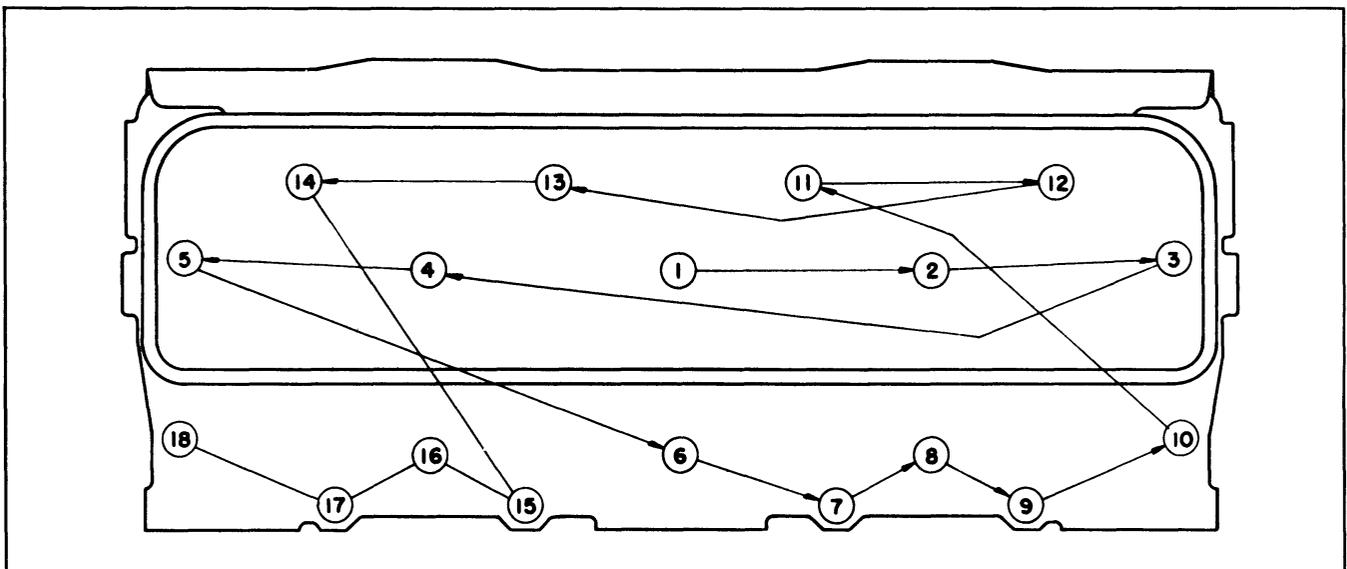

Fig. 8-11 Head Bolt Torque Sequence
5. Tighten rocker arm shaft bracket and cylinder head attaching bolts in sequence as shown in Fig. 8-11. The cylinder head to block bolts should be torqued 65 to 70 ft. lbs. Tighten the rocker shaft bracket to cylinder head bolts 14 to 17 ft. lbs.